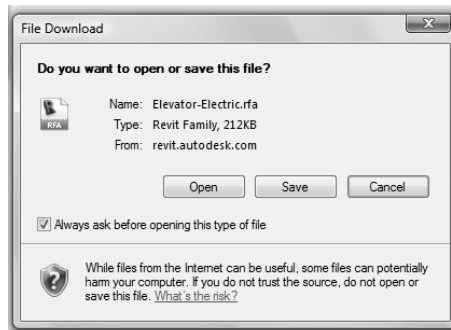

Figure 3-4.5a Web browser prompt
8. Select **Save** (Figure 3-4.5a).